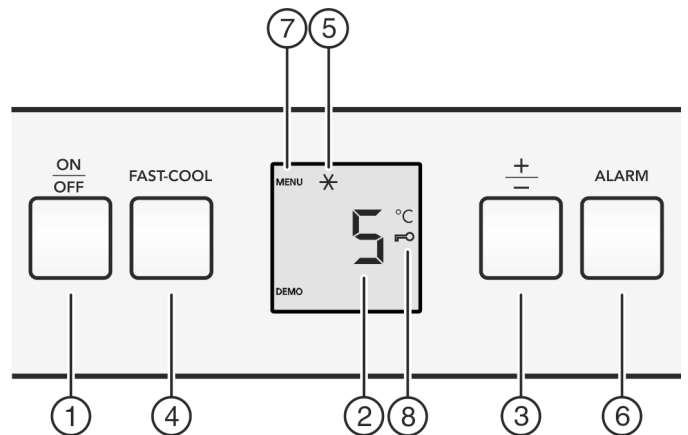

Fig. 2
- ▶ Press the On/Off button *Fig. 2 (1)*.
- ▶ Press alarm button *Fig. 2 (6)*.
- ▶ Call up the temperature function: Press the "+/-" setting button *Fig. 2 (3)*.
- ▶ Change the temperature in 1 °C steps: Press the "+/-" setting button *Fig. 2 (3)* until the required temperature is indicated in the temperature display.
- ▶ Briefly press the Fast Cool button *Fig. 2 (4)*.
- ▷ The Fast Cool symbol *Fig. 2 (5)* illuminates in the display.
- ▷ The Fast Cool symbol *Fig. 2 (5)* goes out in the display.